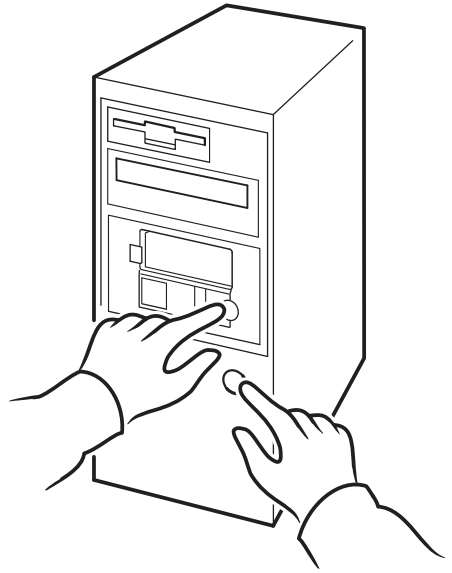

Figure 17b: hp obdr, step 2
- 2 Hold down the eject button. Keeping the eject button pressed down, power on your server (see figure 17b). This puts the device into HP One-Button Disaster Recovery mode when you power on. Release the button as soon as the LCD displays the message "OBDR Mode".